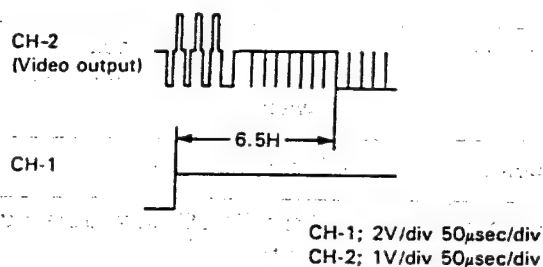

Figure 2-7.
3. Adjust R751 (PAL switching point control) so that the waveform on the oscilloscope screen be as shown in Fig. 2-7.